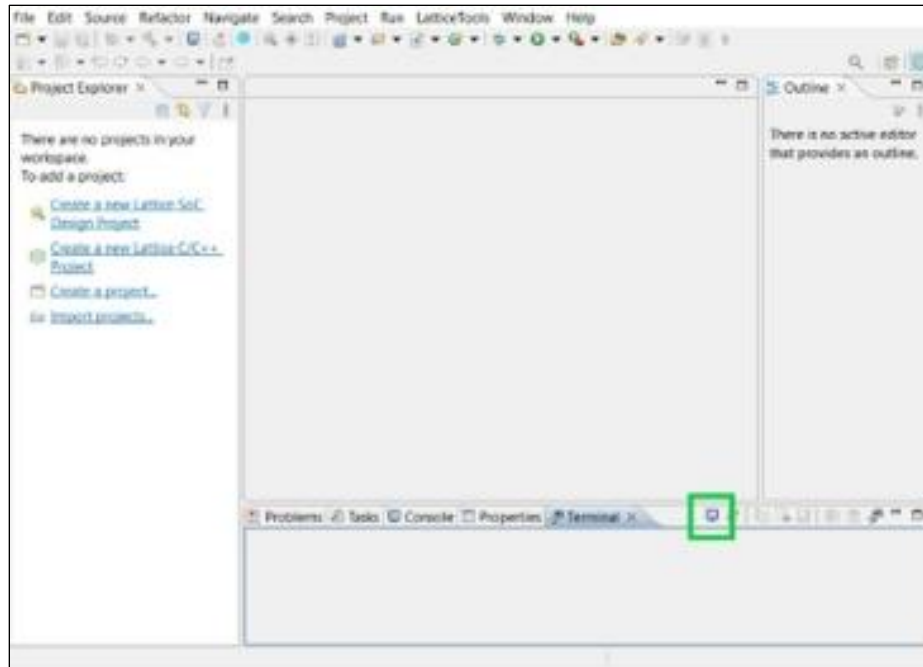
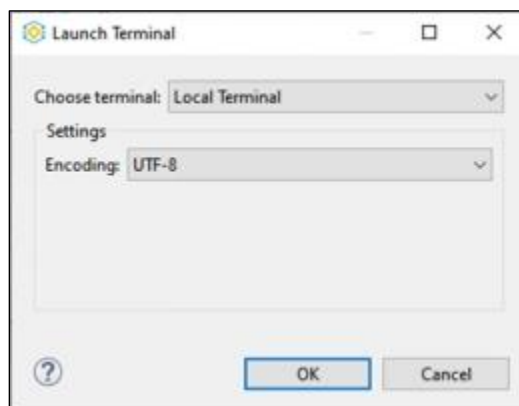

Figure E.11. Open Propel Terminal
Figure E.12. Propel Terminal Selection Window
- b. Double-click the terminal button at the bottom part of Propel SDK window as shown in Figure E.11. The Propel terminal appears as shown in Figure E.12.